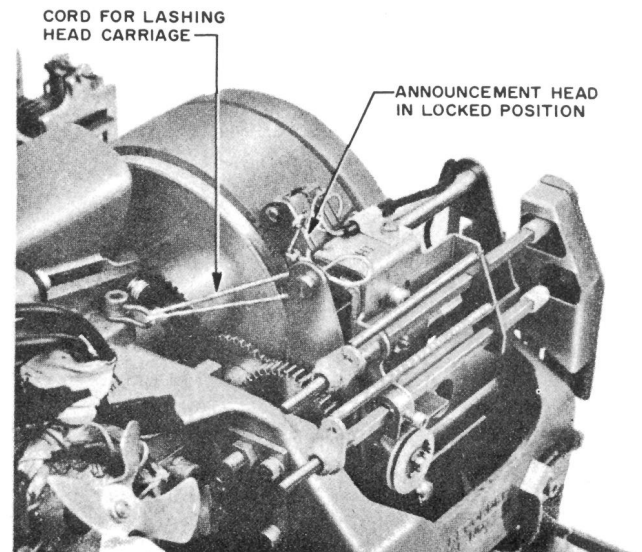

Fig. 10 - Head Carriage Lashing and Locking
- 1.13 Fig. 10 identifies lashing to be removed at time of installation.